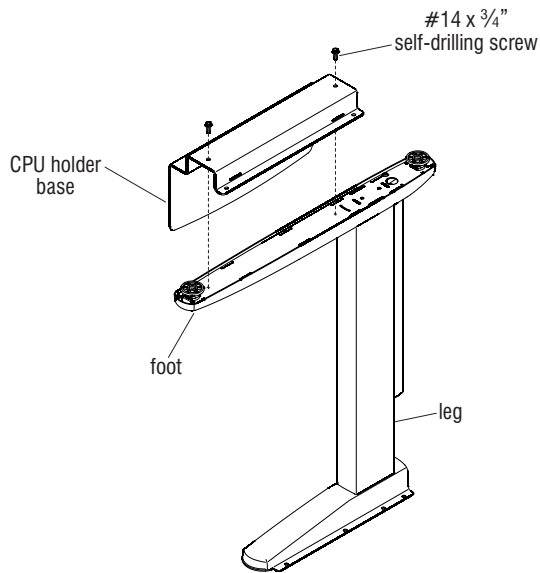

Figure 1
1. Unpack the InTandem CPU holder components and locate the hardware kit. Place the InTandem leg or desk assembly upside down on a soft, protective surface. Place the CPU holder base on the bottom surface of the table leg's foot. Position the CPU holder base so that its back edge is slightly ahead of leg column vertical tube and generally parallel with the foot. Hold in place and secure with two #14 x $\frac{3}{4}$ " self-drilling screws (Figure 1).